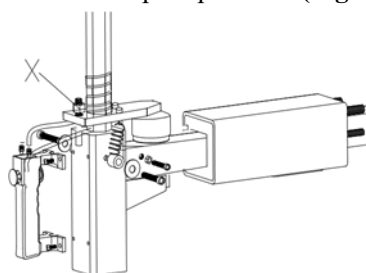

Fig 27
**Note:** If the mounting head doesn't lock to its required distance of 2-3 mm above the rim, please adjust the hexagonal locking plate's screw (X, Fig 27).